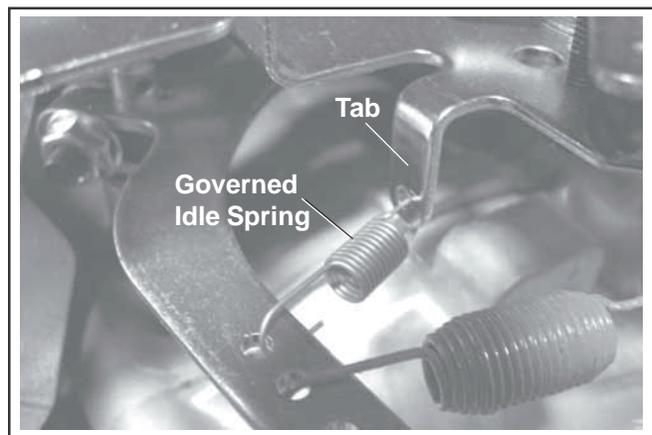

Figure 20. Governed Idle Spring Location.
An optional governed idle control system is supplied on some CV17-740 engines. The purpose of this system is to maintain a desired idle speed regardless of ambient conditions (temperature, parasitic load, etc.) that may change. Engines with this feature contain a small secondary spring connected between the governor lever and the lower adjustment tab of the main bracket. See Figure 20.
3. Release the governor lever and allow the engine to return to the governed idle speed. Check it with a tachometer against the equipment manufacturers recommended idle speed. Governed Idle Speed (RPM) is typically 300 RPM (approximate) higher than the low idle speed. If adjustment is necessary, bend the adjusting tab on the speed control assembly to set. See Figure 20.
An optional governed idle control system is supplied on some CV750 engines. The purpose of this system is to maintain a desired idle speed regardless of ambient conditions (temperature, parasitic load, etc.) that may change. Engines with this feature contain a small secondary spring connected between the governor lever and the lower adjustment tab of the main bracket. See Figure 20. Refer to the same adjustment procedure covered in “**Models with Governed Idle System**” for the CV17-740 models on page 16, when adjustments are required.